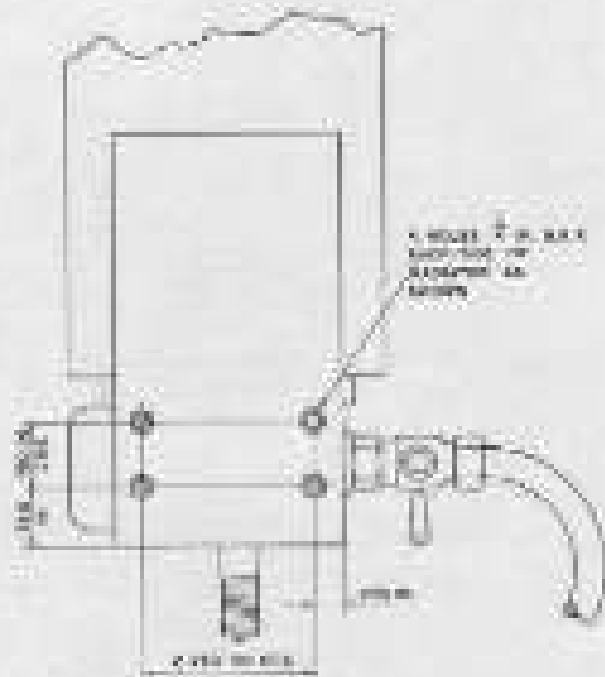

Fig. 14. Location of support plate.
Before commencing to install the external oil cooler system in any type 401 car, first examine the radiator for the presence (or absence) of four $\frac{1}{2}$ in. B.S.F. holes in each side plate (see Fig. 14).
3. Referring to Fig. 14, mark off the positions of the four holes in each radiator side plate, then drill and tap $\frac{1}{2}$ in. B.S.F. holes.